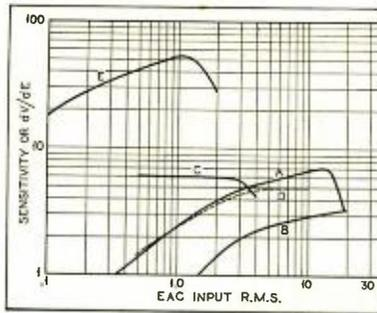

Fig. 4. Sensitivity or  $dV/dE$  curves for various detectors.
In the case of a triode, the ratio of  $R_p/r_p$  may be made equal to two or three. The ratio of  $\mu/\pi$  is also greater than one with the usual triode so that with a typical 227 tube, for instance, the sensitivity with fairly high plate voltages may be about 7. Curve A of Fig. 4 shows the sensitivity for a typical case.
In the case of an automatic bias detector the internal resistance is high so that the sensitivity is reduced considerably. Curve B of Fig. 4 shows that the sensitivity of a 227 tube used in a typical automatic bias detector circuit is only about 3.5 or one-half that obtained when used as a C bias or a fixed bias detector due to the large  $r_p$  when used as an automatic bias detector. The reason for the increase of internal resistance is that the drop across the bias resistor is impressed on the grid which voltage opposes the effect of the plate voltage, thus increasing the resistance. The  $I_p-E_p$  curves are much flatter and
Thus it is seen that the sensitivity is less than the  $\mu$  of the tube. It is necessary to keep  $R_p$  one or two times  $r_p$  in a three-element tube so that the total sensitivity may be only about  $1/2$  to  $2/3$  of the  $\mu$  of the tube. This is illustrated in Fig. 4-C.
In all electric receivers, however, a self-bias detector is used and a study of curves B and C of Fig. 4 shows that the sensitivity of the grid circuit detector is almost twice as great and more linear than that of a self-bias automatic bias detector. It is better to use a 227 grid circuit detector rather than an automatic bias detector provided that the output voltage is sufficient for the purpose. Typical output results were given for the ER-227 tube in another paper1 and will not be repeated here.
detector. The ratio of  $R_p$  to  $r_p$  must necessarily be made small because of audio quality considerations. A typical sensitivity curve is shown in Fig. 4-D. Thus we would expect to find that a 224 automatic bias detector would be slightly more sensitive than a 227 automatic bias detector, and from the curves, we find that it is about twice as sensitive. It is to be noted, however, that the 227 grid circuit detector up to its output limitations is a much more linear detector and slightly more sensitive than the 224 automatic bias detector.
Equation (3) holds also in the case of a 224 grid circuit detector. The values of  $dV/dE$  found from Fig. 3 are plotted in Fig. 4-D. There is a large increase in sensitivity over any other type of detector discussed here. The difference is striking when compared with the case of automatic or C bias detectors for input voltages of less than one volt. The region of voltages less than .1 volt is that used in small signal detection and does not concern us in this study, as the audio amplification is such that the power output level delivered by the small signal, .1 volt or less, is very low.